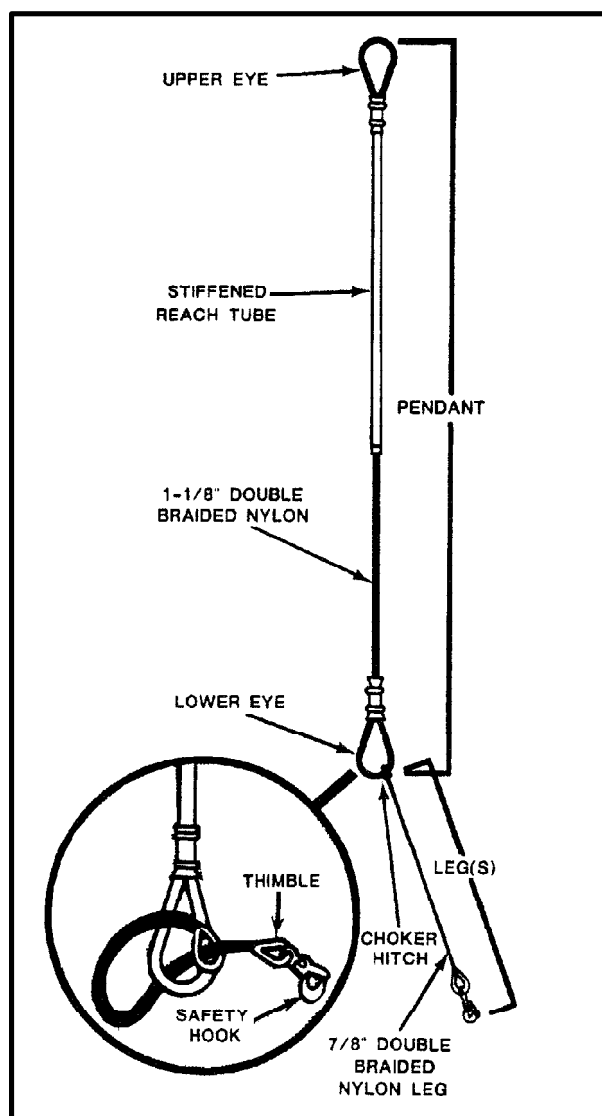

Figure 9-5. Mk 105 Hoisting Sling (Multi-leg Pole)
**e. Hoisting Sling Mk105.** This sling, called the multi-leg-pole pendant or reach pendant, is approved for all types of VERTREP loads up to 6,000 pounds (Figure 9-5). The Mk105 consists of two parts: the pendant section and the leg assemblies.
(1) The pendant, made of 1 1/8-inch diameter, double-braided nylon rope, is approximately 12 feet long. The silicone-impregnated eye at the lower end of the pendant aids in removing the attached legs from the pendant. The upper eye is encased in flexible tubing and allows the pendant to slip off or on the cargo hook when released or attached. A 6-foot plastic reach tube encases the upper portion of the pendant and provides the rigidity needed to place the upper eye over the cargo hook.
(2) The legs are made of color-coded, 15/16-inch diameter, double-braided nylon rope with an open eye splice at one end and a positive-closing, self-locking cargo hook at the other end. The regular leg (orange) is 85 inches long and the long leg (green) is 116 inches long. As many as six legs may be attached to the pendant's lower eye by means of choker hitches (Figure 9-5 inset). The number of legs used is determined by the number of attachment points on the load. Four regular legs are provided with each pendant at the time of issue. The safe working load for a Mk105 pendant with